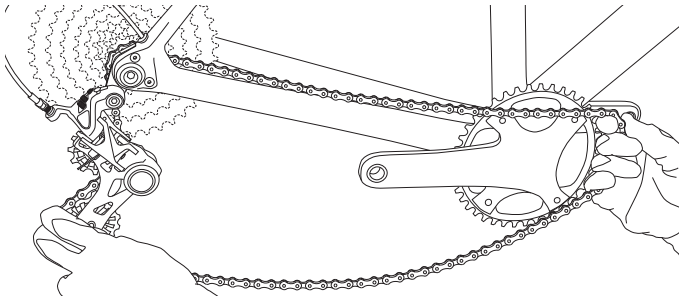

Fig.12
- Push the rocker downwards to reduce the chain tension and reposition the chain on the chainring (Fig. 12).